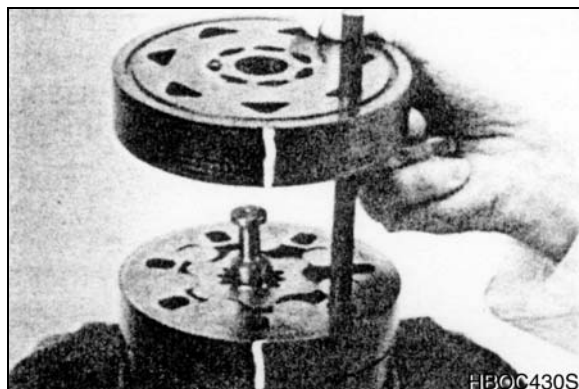

Figure 58
16. Assemble the manifold (7) over the alignment studs and drive link (10) and onto the rotor set. Be sure the correct manifold surface is against the rotor set. See Figure 58.